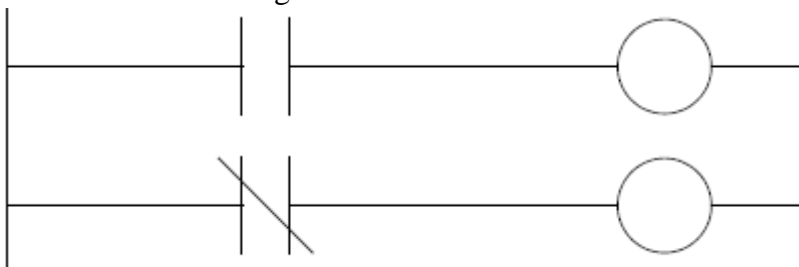

Figure 2
4. In the Figure 2 below, identify the state of the power for the output on the first rung and on the second rung. (2 marks)